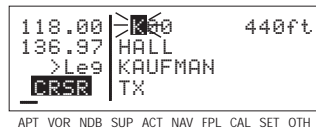

Figure 4-64
3. Turn the right inner knob to select a "K" as the first character (figure 4-64). You may turn the knob either clockwise or counterclockwise, and the letters and numbers wrap around with a blank character separating the "9" and the "A".